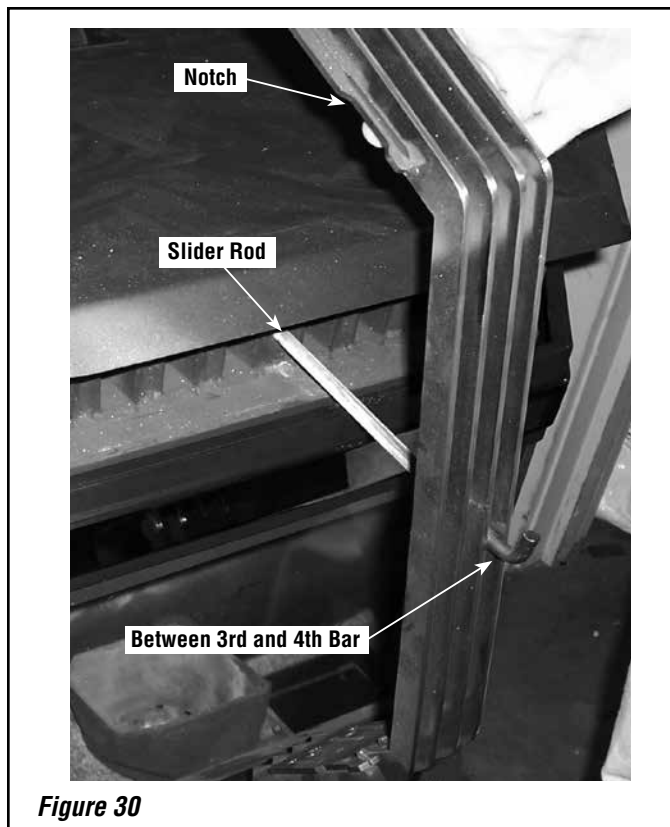

Figure 30
2. Pull the scraper rod out, rotate the grill vertically, (with the notch to the left) and slide the grill over the scraper rod (slide the rod between the third and fourth bar). See **Figure 30**.